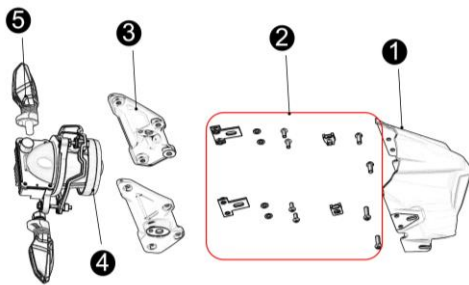

Fig 11
6.4.2 Disassemble headlight and front turn light (see Fig 11)
- .dismount bolts of support of bow cap (2) and separate headlight and bow cap (1)(3)
- .dismount bolts of headlight and separate headlight and bow cap (1)(4)